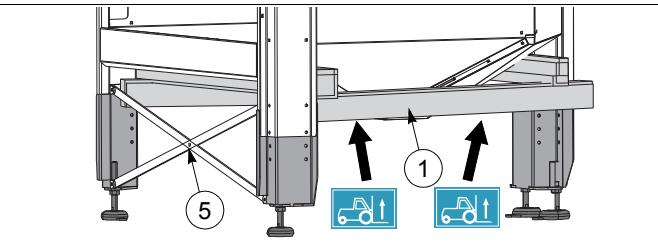
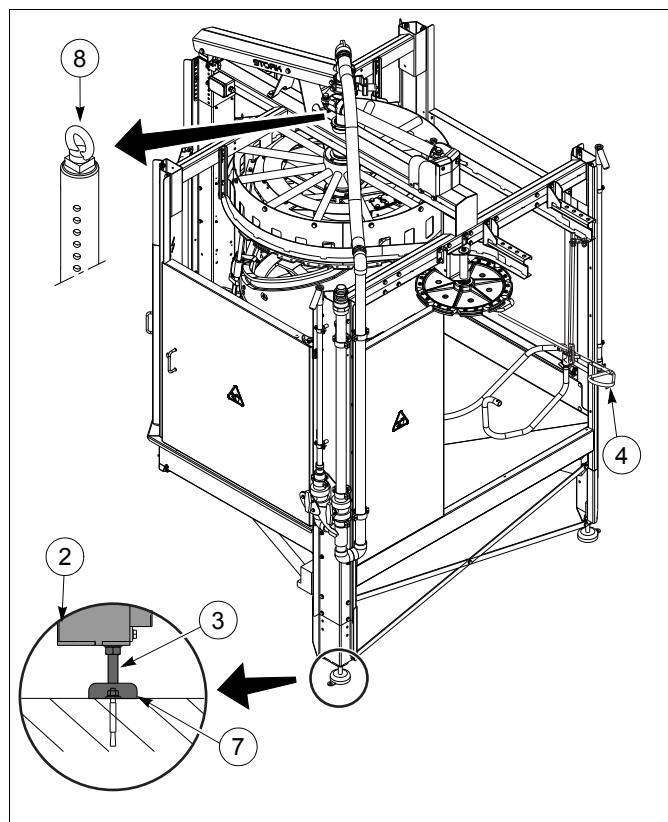

fig. 10 Transport frame
fig. 11 Machine set-up
11. Connect the machine to the Overhead Conveyor. See the User's Manual Overhead Conveyor. See fig. 10 and fig. 11.